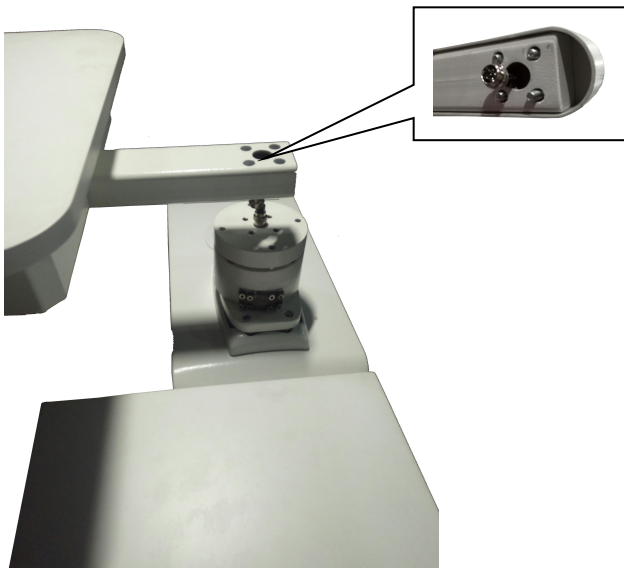

Figure 4
⑧Connect the mesa, connect the 8-pin aviation plug securely (and lock it), and then connect the four M8 screws of the mesa skeleton to the cabinet flange (the mesa connects to the cabinet 90° direction) (see Figure 4).